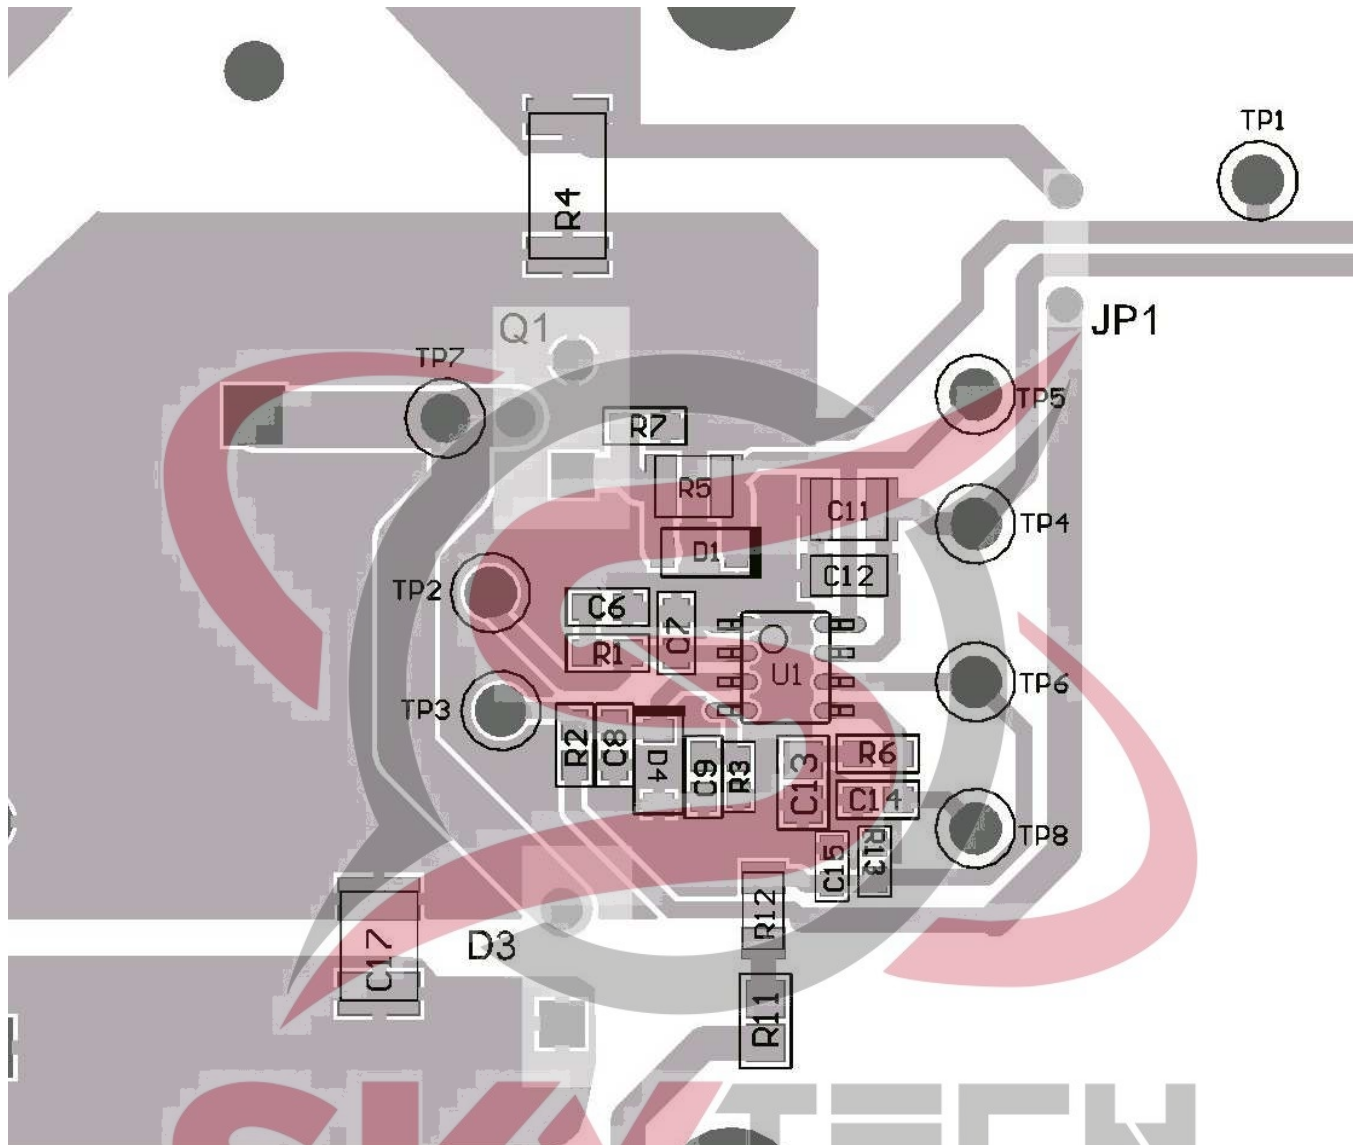

Figure 41. Recommended Layout for UCC28180
As with all PWM controllers, the effectiveness of the filter capacitors on the signal pins depends upon the integrity of the ground return. Separating the high di/dt induced noise on the power ground from the low current quiet signal ground is required for adequate noise immunity. Even with a signal layer PCB design, the pin out of the UCC28180 is ideally suited to minimize noise on the small signal traces. As shown in Figure 41, the capacitors on VSENSE, VCOMP, ISENSE, ICOMP, and FREQ (if used) must be all be returned directly to the portion of the ground plane that is the quiet signal GND and not in high-current return path of the converter, shown as power GND. The trace from the FREQ pin to the frequency programming resistor should be as short as possible. It is recommended that the compensation components on ICOMP and VCOMP are located as close as possible to the UCC28180. Placement of these components should take precedence, paying close attention to keeping their traces away from high noise areas. The bypass capacitors on VCC must be located physically close the VCC and GND pins of the UCC28180 but should not be in the immediate path of the signal return.
Other layout considerations should include keeping the switch node as short as possible, with a wide trace to reduce induced ringing caused by parasitic inductance. Every effort should be made to avoid noise from the switch node from corrupting the small signal traces with adequate clearance and ground shielding. As some compromises must be made due to limitation of PCB layers or space constraints, traces that must be made long, such as the signal from the current sense resistor shown in Figure 41, should be as wide as possible, avoid long narrow traces.
**Table 2. Layout Component Description for Figure 41**